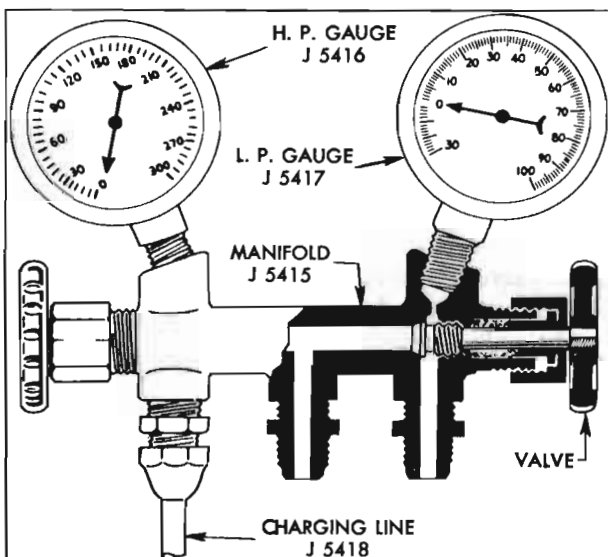

Figure 11-53—Pressure Gauge Set
2. Connect charging lines of Pressure Gauge Set (fig. 11-53) to gauge fittings of both valves,